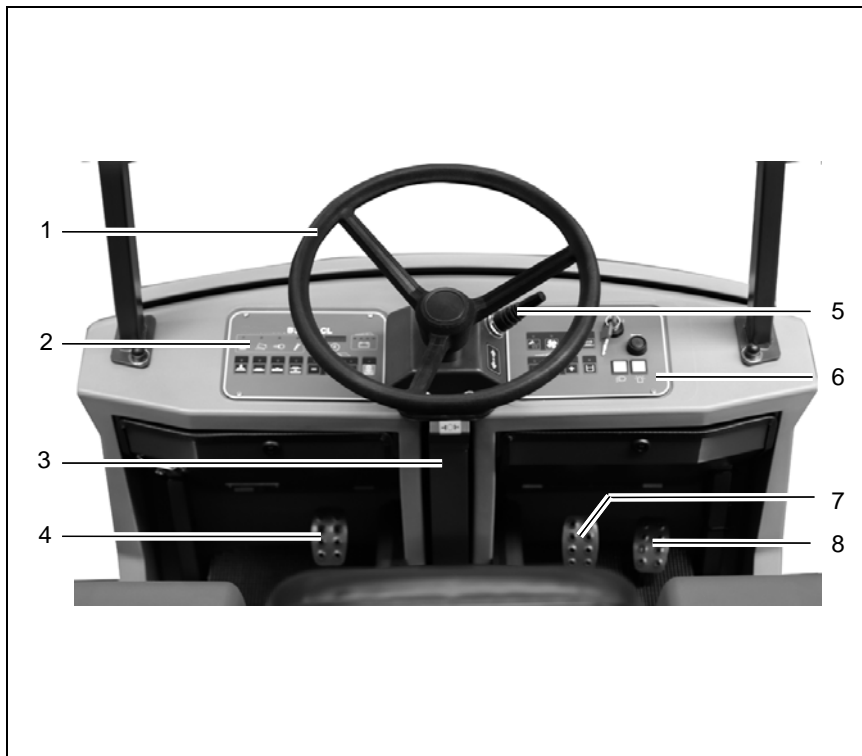
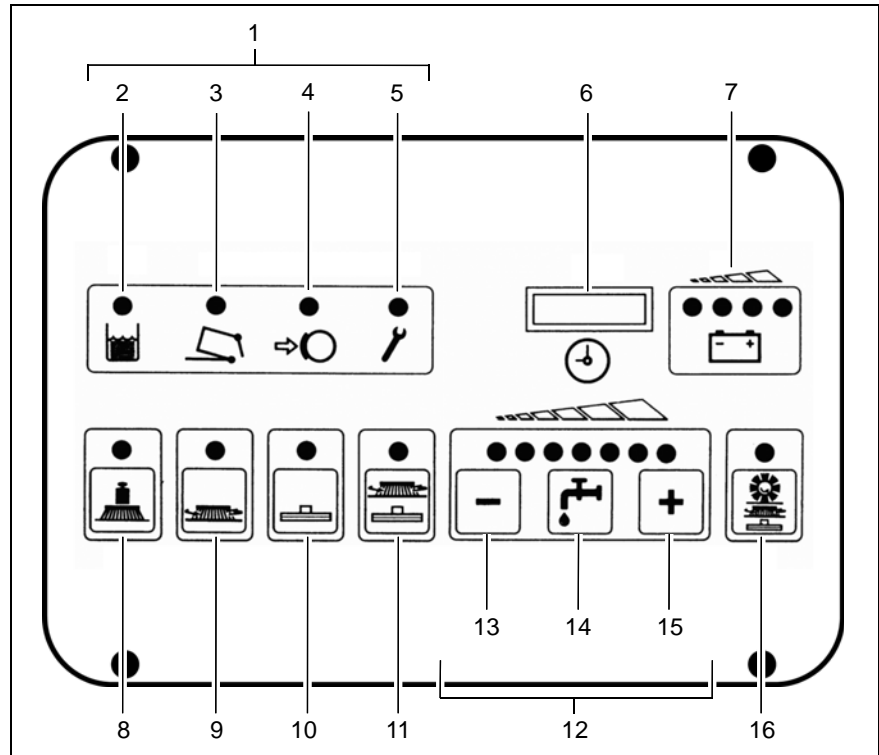

Fig. 18
Fig. 19
(Fig. 18/1)
(Fig. 18/2)
(Fig. 18/3)
(Fig. 18/4)
- When the parking brake is applied, the corresponding control lamp on the operating panel (Fig. 19/4) lights up red.
Before getting out of the vehicle apply the parking brake, set the driving direction switch (Fig. 18/5) to its neutral position and switch the key switch to off.
(Fig. 18/5)
(Fig. 18/6)
(Fig. 18/7)
(Fig. 18/8)
- Before actuating the accelerator, use the driving direction switch (Fig. 18/5) to set the direction of travel: forwards or reverse.
- To stop securely, apply the service brake (Fig. 18/7).
An acoustic warning signal (buzzer) is issued should the hydraulic motor overload. At the same time, the red alarm lamp (Fig. 18/5) lights up in the left-hand operating panel (Fig. 19/2) and the driving speed is reduced by approx. 50%. In addition, an error code appears in the service indicator (Fig. 19/6).
3.2.2 Left-hand operating panel (Fig. 19)
(Fig. 19/1) The indicator field enables the scrubber drier to provide feedback on the operating status of the vehicle. This only relates to operating states which cannot be switched on and off via the operating panel: recovery tank full, dirt hopper for pre-sweep/vacuum unit full, parking brake applied and error message.
(Fig. 19/2) The yellow control lamp lights up when the recovery tank has reached its maximum fill level. Also, a “beep” signal is issued every 15 seconds. In this case, a float switch switches the suction turbine off and the squeegee is raised.
(Fig. 19/3) The control lamp lights up red when the dirt hopper is not properly inserted (engaged) or the front flap is not properly closed.
(Fig. 19/4) The control lamp lights up red when the parking brake has been actuated via the pedal to the left of the steering column. If the traction drive is switched on, an acoustic signal is also issued.
Indicator for function faults (Fig. 19/5)
At the same time, a four-digit code appears in the display of the service indicator (Fig. 19/6). This error code infers which fault has occurred (refer to Section 3.5.1). At the same time, the control lamps flash and an acoustic, pulsating signal is issued.
(Fig. 19/6) The four-digit LED serves to display the operating hours.
(Fig. 19/6) The four-digit LED serves for a more accurate determination of function faults. If a
Battery and charge control indicator (Fig. 19/7)
Button for brush pressure (Fig. 19/8) This button is used to increase the brush pressure. This may be necessary when the area to be cleaned is extremely dirty.
Button for the brush drive (Fig. 19/9) This button serves to switch the brushes and fresh water supply on and off with simultaneous, respective lowering and raising of the brush head.
(Fig. 19/10) This button serves to switch the suction turbine on and off with simultaneous lowering and raising
(Fig. 19/11) After pressing the button, the most important basic functions for standard cleaning are automatically activated/deactivated in the correct sequence of use: suction turbine, brush rotation, fresh water supply and lowering or raising the brushes and squeegee.
(Fig. 19/12) The
(Fig. 19/13) The button serves to reduce the fresh water quantity supplied to the brushes. The fresh water
(Fig. 19/14) This button serves to switch the fresh water supply on and off when the brush head is lowered.